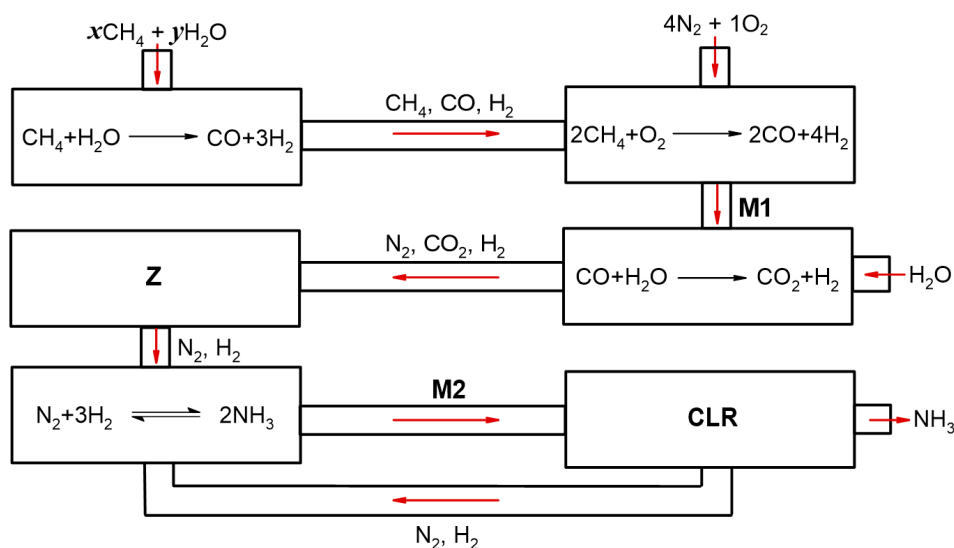

Fig. 1. M1 - Mixture 1, M2 - Mixture 2, Z – CO_2 scrubber, CLR - cooler
In the following calculations, assume that all reactions in **Fig. 1**, except NH_3 formation, are quantitative.
- 7.2** **Calculate** the mass of CH_4 (tons) required annually to produce 660,000 tons of ammonia, if the *Navoiyazot* operates according to the **Fig. 1**. 8.0 pt